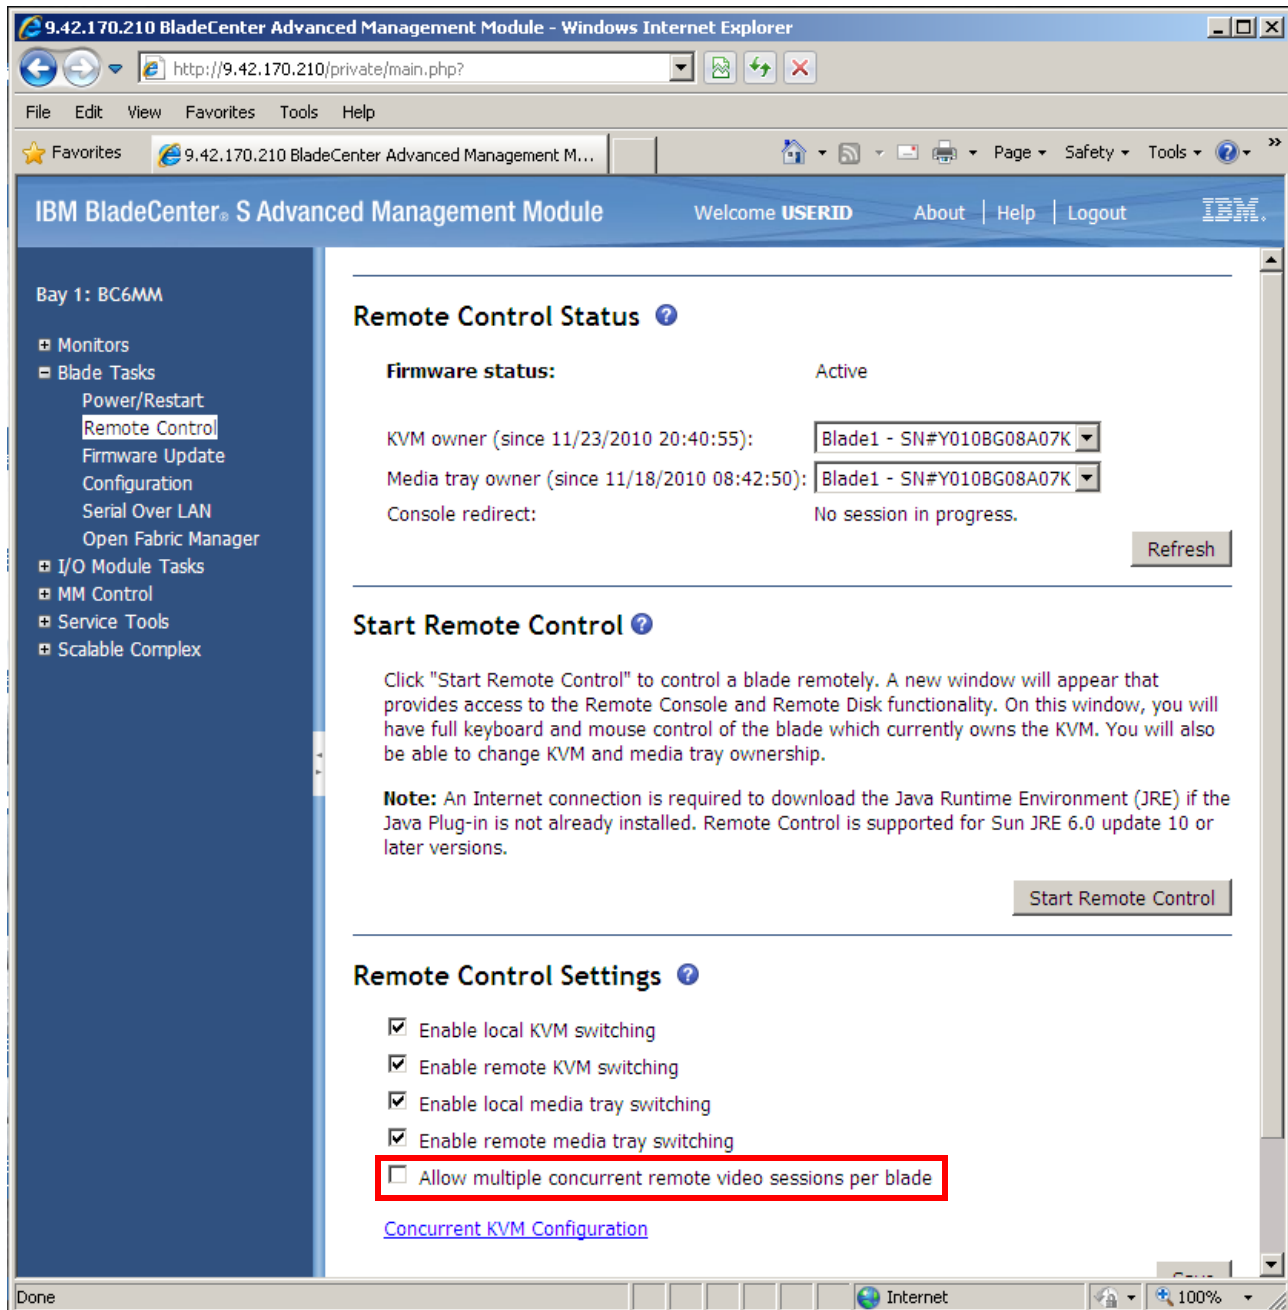

Figure 9-16 Remote Control options page
- Remote Control Settings: This section controls how KVM access is managed for the blades within the chassis. As with the IMM, you can also specify whether to allow multiple concurrent sessions to the same blade. If you want exclusive remote access to a blade, clear **Allow multiple concurrent remote video sessions per blade**, as shown in Figure 9-16 on page 466.